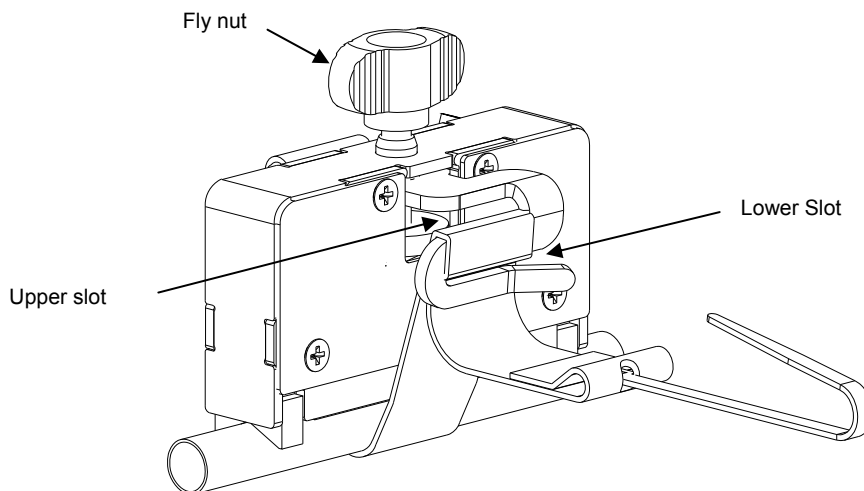

Fig. 7.6: Threading the fastening strap
- First guide the fastening strap through the upper slot of the strap clamp, and then through the lower one (see Fig. 7.6). Make sure that the strap is tensioned properly and that the fly nut has been pressed in up to the stop.